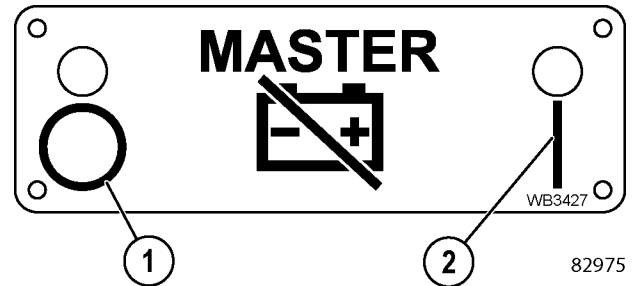

FIGURE 20-1. MASTER DISCONNECT SWITCH
- This truck is equipped with a master disconnect switch (3, Figure 20-2) on the battery ground circuit. When disconnecting battery cables, always move the master disconnect switch to the OFF position (1, Figure 20-1). First, disconnect the positive (+) battery cables, then the negative (-) battery cables last.